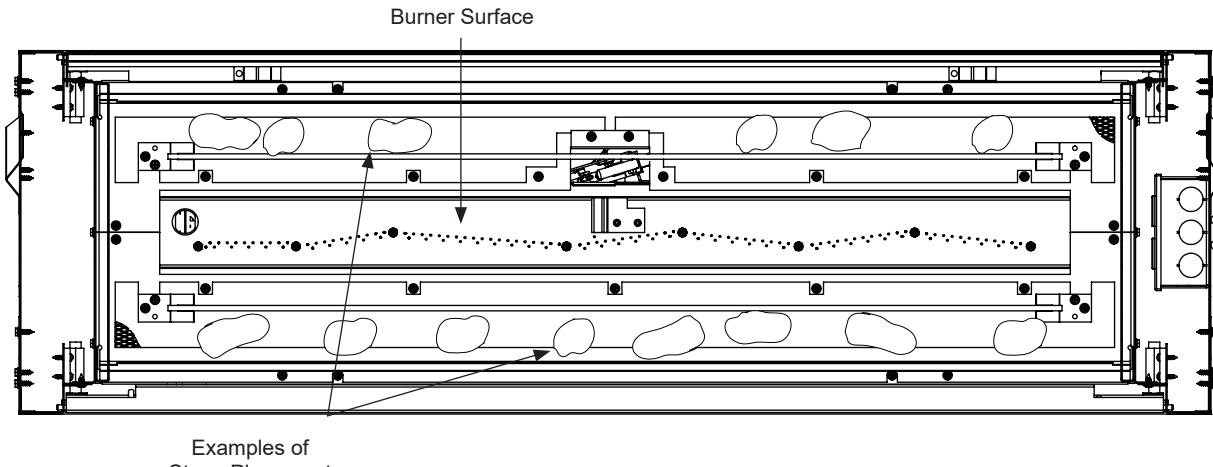

Figure 17. Air Deflection Glass and Stone Placement
2. Place the stones randomly in front of and behind the air deflection glass. CAUTION: Do not allow stones to sit directly on burner or in flame. Figure 17.